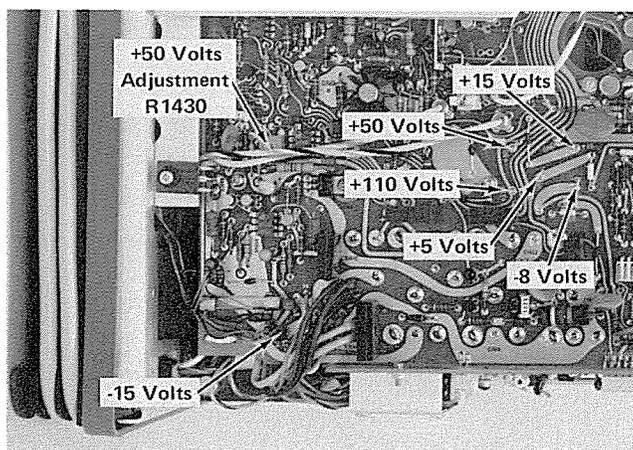

Fig. 5-2. Low voltage power supply test points and +50 V adjustment.
a. Connect the Precision DC Voltmeter between test point +50 V and GND (negative meter lead to ground) on the main interface board. See Fig. 5-2.
c. ADJUST—+50 volt supply adjustment, R1430, (see Fig. 5-2) for a meter reading of +50 volts, within 0.1% or 50 mV.
d. Using the Precision DC Voltmeter, measure the low voltage power supplies given in Table 5-5. Observe proper meter polarity. See Fig. 5-2 for test point locations.